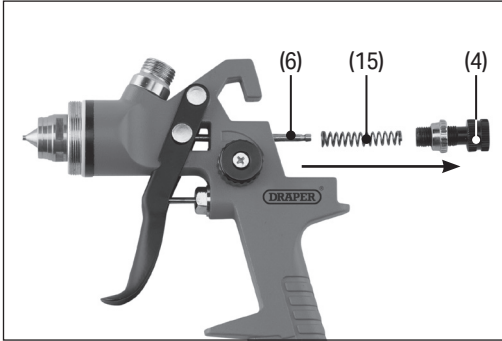

Fig. 4
3. Rotate the fluid control dial (4) anticlockwise until it comes away from the spray gun body (Fig. 4).
4. Remove the spring (15) and fluid needle (6) from the chamber via the back of the spray gun.